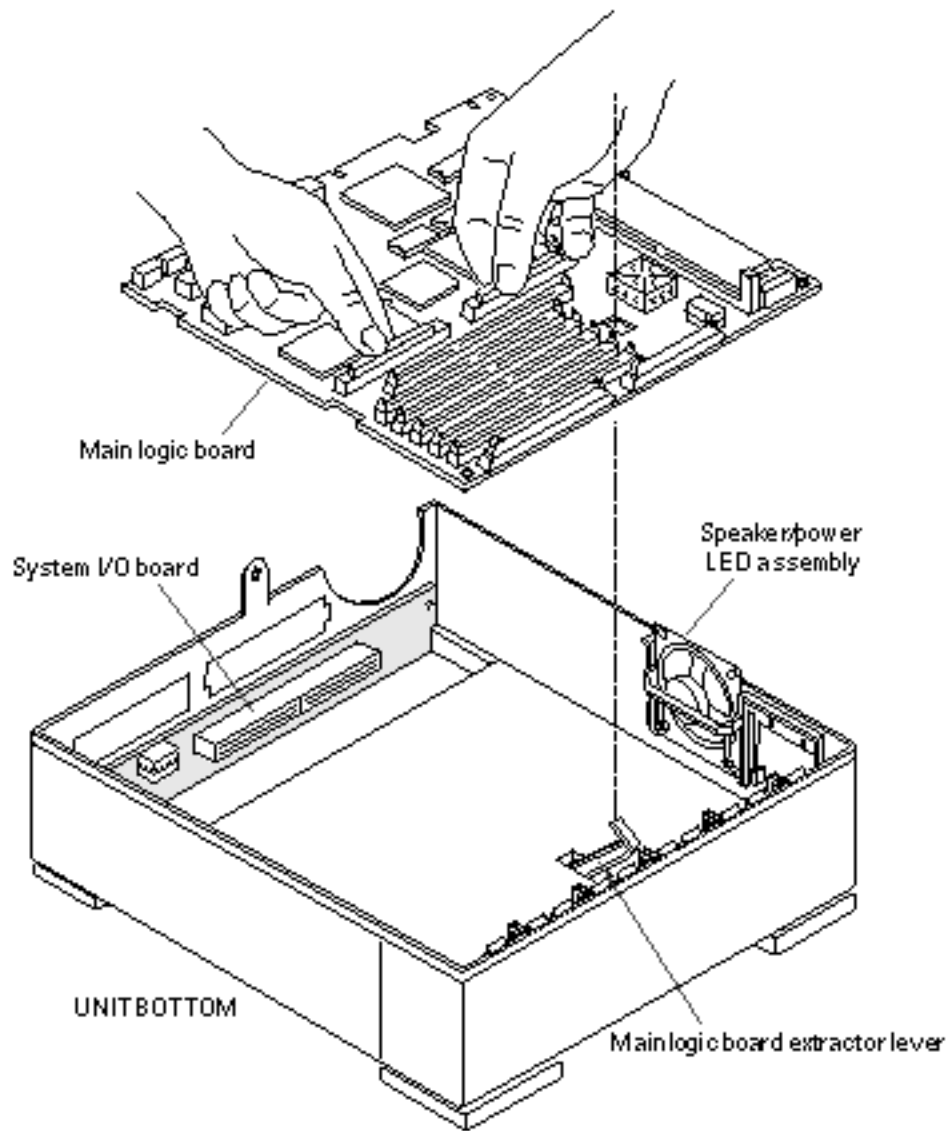

Figure 8-6 Removing and Replacing the Main Logic Board
3. Grasp the board by the SBus connectors with both hands. Tilt the board slightly to avoid the speaker assembly and lift it up and out of the system unit (see Figure 8-6). Avoid handling any of the delicate electronic components or touching any of the circuit board traces.
board (see Figure 8-6). Avoid handling any of the delicate electronic components or touching any of the circuit board traces.